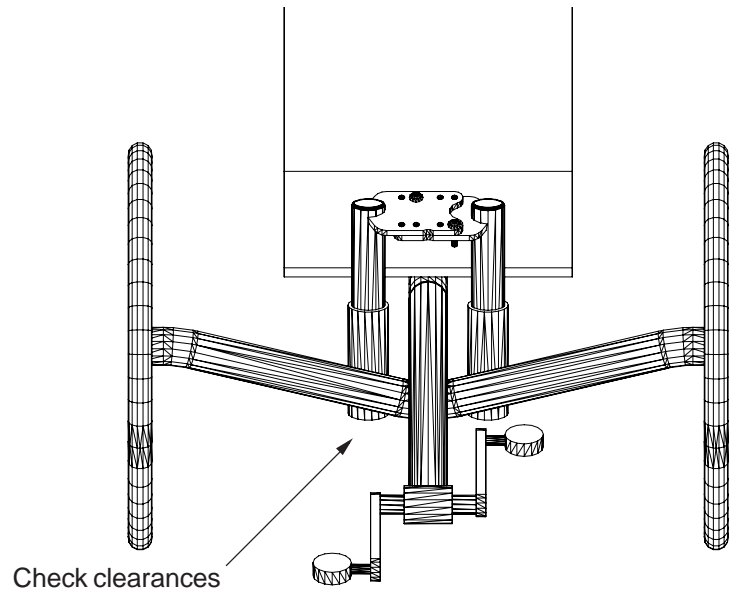

Figure 1B
1.2 With your trike resting on the ground, slide the Support Arms down over your trike as shown in Fig 1B. Move the Arms forward so that they touch the rear of your trike's cross member. Check the spacing between your trike and the padded area of the Support Arms. You need enough clearance to load your trike onto the arms. You may adjust the Support Arms  $\frac{3}{4}$  inch (19 mm) wider or narrower as needed.